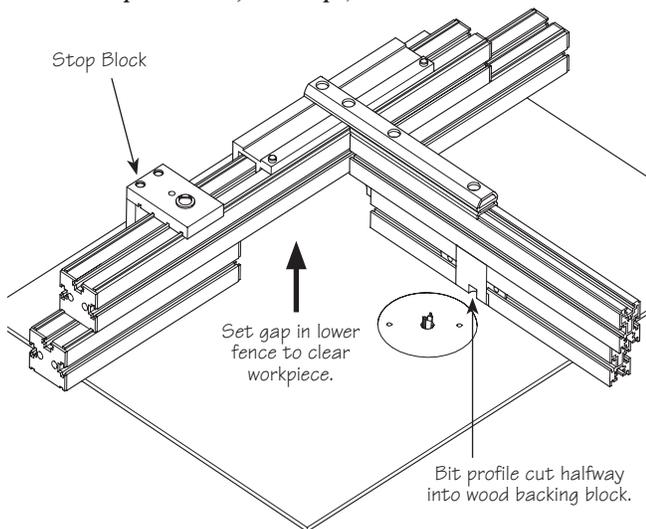

Figure 8: Set-up for cross routing.
2. Adjust the fence so there is a gap between the lower extrusions for the workpiece to pass through (see **Figure 8**). In order for the workpiece to clear the bit at the infeed and outfeed stages of the crosscut, the gap must be at least twice as wide as the workpiece, plus the diameter of the bit. Using the fence and sled this way limits the width of the workpiece to 4" (100mm). For work up to 8" (200mm) wide, see **Cross Routing Wider Pieces**.